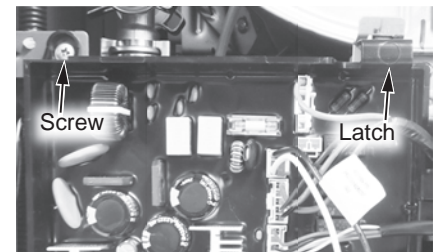

Figure 174 - Control board panel location
- 15 Locate the screw securing the control board panel. Use a Phillips screwdriver to remove the screw and place it aside in a safe place for reinstallation. See Figure 174.